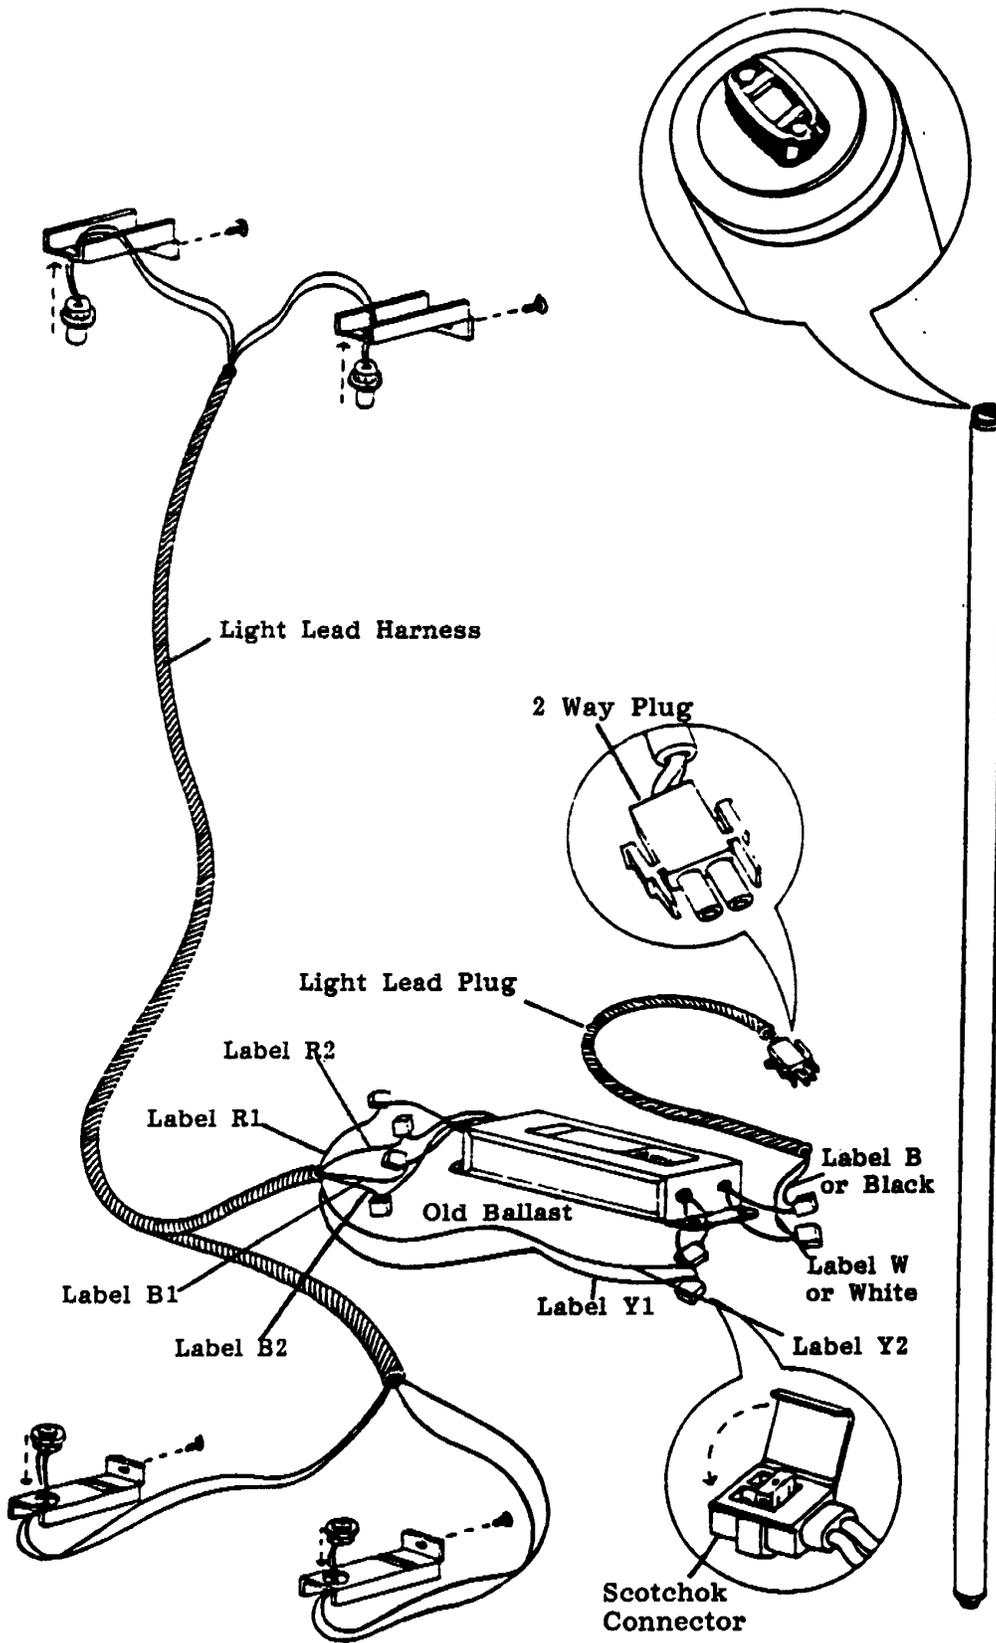

Figure 3
4. Look at the wires from the light lead harness and the light lead plug. Make sure these wires are labeled to match the color of the wire they connect to at the ballast. Note: The wires of the light lead harness and light lead plug are labeled at the factory. Look for the letters on the wires to make sure it is readable before continuing. (See figure 3.)
5. Once wires are labeled, disconnect the existing ballast at the scotchlok connectors. (See figure 3.)